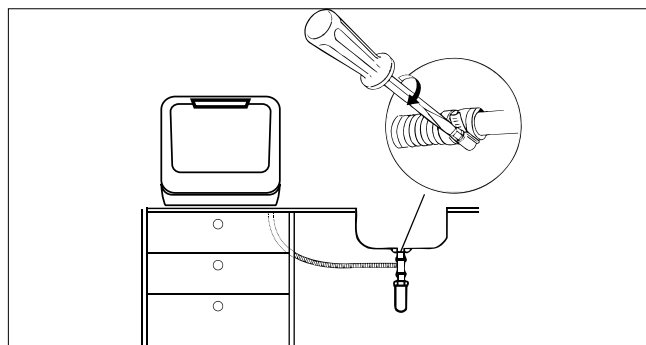

Fig. 9 – Securing hose connection
- ▶ Secure the hose end so that the hose cannot slip (see Fig. 9).